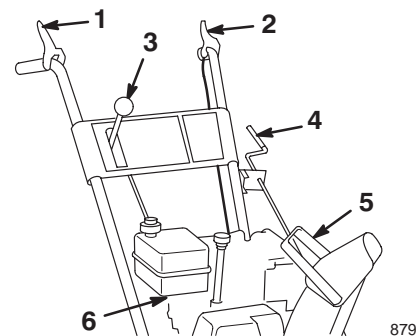

Figure 13
- **Auger/Impeller Drive Control Lever** (Fig. 13)—To engage both the auger and impeller, press the lever against the right handgrip. To disengage, release the lever.
- **Traction Control Lever** (Fig. 13)—To engage the traction (wheel drive), press the lever against the left handgrip. To stop the traction, release the lever.
- **Speed Selector** (Fig. 13)—This control has four positions: three forward speeds and one reverse. To change speeds, move the speed selector to the desired position. The lever locks in a notch at each speed selection.
- **Discharge Chute Control** (Fig. 13)—Rotate the discharge chute control clockwise to move the discharge chute to the left; counterclockwise to move the chute to the right.
- **Chute Deflector Handle** (Fig. 13)—Move the deflector handle forward to move the snow stream down; move it rearward to move the snow stream up.
- **Fuel Shutoff Valve** (Fig. 13)—Close the valve by rotating clockwise. Open the valve by rotating it counterclockwise. Close the valve when you do not use the snowthrower.
3. Release the auger/impeller drive control lever and the traction control lever (Fig. 13).
10. Move the speed selector (Fig. 13) to first gear, squeeze the traction control lever to the handgrip, and then release the traction control lever. If the snowthrower moves forward before engaging the traction drive control lever or after releasing the lever, see Adjusting the Traction Drive on page 20.